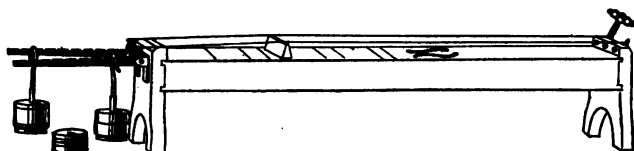

FIG. 372. — A sonometer.
**402. Laws of vibrating strings.** We may show by means of a sonometer (Fig. 372), which is simply a metal wire stretched across a long wooden box, that the pitch or frequency of a wire is raised by tightening the wire. If we introduce a movable bridge or fret, the pitch is raised. The shorter we make the wire or string, the higher is the pitch. Finally we may show that a *larger* wire of the same length and under the same tension gives a lower note.